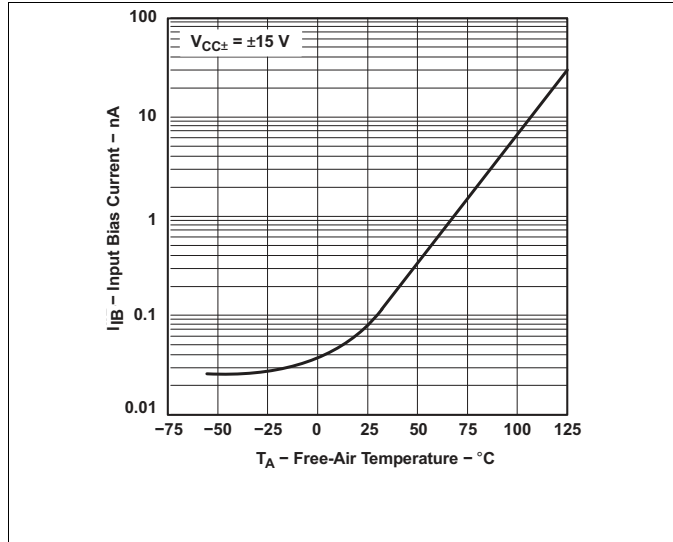

Figure 1. Input Bias Current vs Free-Air Temperature
- (1) All characteristics are measured under open-loop conditions with zero common-mode voltage, unless otherwise specified.
- (2) $T_A = -40^\circ\text{C to } 85^\circ\text{C}$.
- (3) Input bias currents of an FET-input operational amplifier are normal junction reverse currents, which are temperature sensitive, as shown in Figure 1. Pulse techniques must be used that maintain the junction temperature as close to the ambient temperature as possible.
- Input bias currents of an FET-input operational amplifier are normal junction reverse currents, which are temperature sensitive, as shown in Figure 1. Pulse techniques that maintain the junction temperature as close to the ambient temperature as possible must be used.
- (1) Input bias currents of an FET-input operational amplifier are normal junction reverse currents, which are temperature sensitive, as shown in Figure 1. Pulse techniques that maintain the junction temperature as close to the ambient temperature as possible must be used.
- (2) All characteristics are measured under open-loop conditions with zero common-mode voltage, unless otherwise specified. Full range is $T_A = -55^\circ\text{C to } +125^\circ\text{C}$.